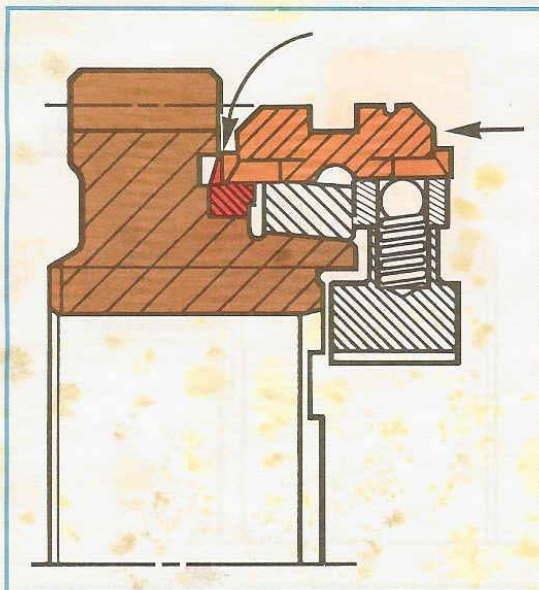

Figure 1-59, Shift Complete.
- Because no speed difference exists between the sleeve and the gear, the sleeve's tooth chamfers slide past the clutch tooth chamfers and into mesh. The shift is complete, since the speed gear's clutch teeth stop any further sliding of the synchronizer sleeve (Figure 1-59).